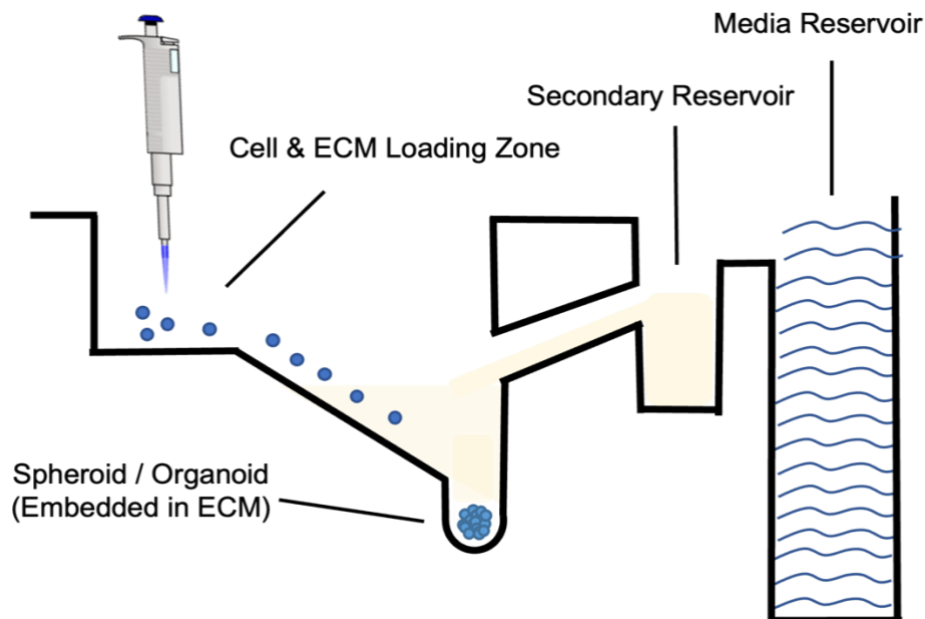

Fig. 2. Schematic cross-section of the 3-in-1 plate with location of cell and ECM loading
- 1-2- After 2 minutes, add 50 μL of cell suspension¹ to the Cell & ECM Loading Zone of each compartment of the insert and incubate for 10 minutes under cell culture conditions to let the cells sediment into the microwells². Make sure to deposit the cell suspension close to the gel and drop-by-drop to avoid bubbles getting trapped. This process is illustrated in Fig. 2.